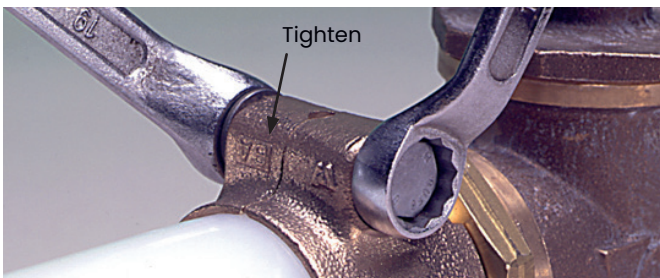

Figure 4-48: Tighten the fitting
8. Tighten the WIPEX fitting slowly by hand to avoid thread problems when assembling acid-resistant stainless steel bolts in a screw joint. If using a tightening machine, only use a low number of revolutions. Use open-ended or ring spanners and slowly tighten until the pads of the clamping sleeve are in contact with one another (see **Figure 4-48**).